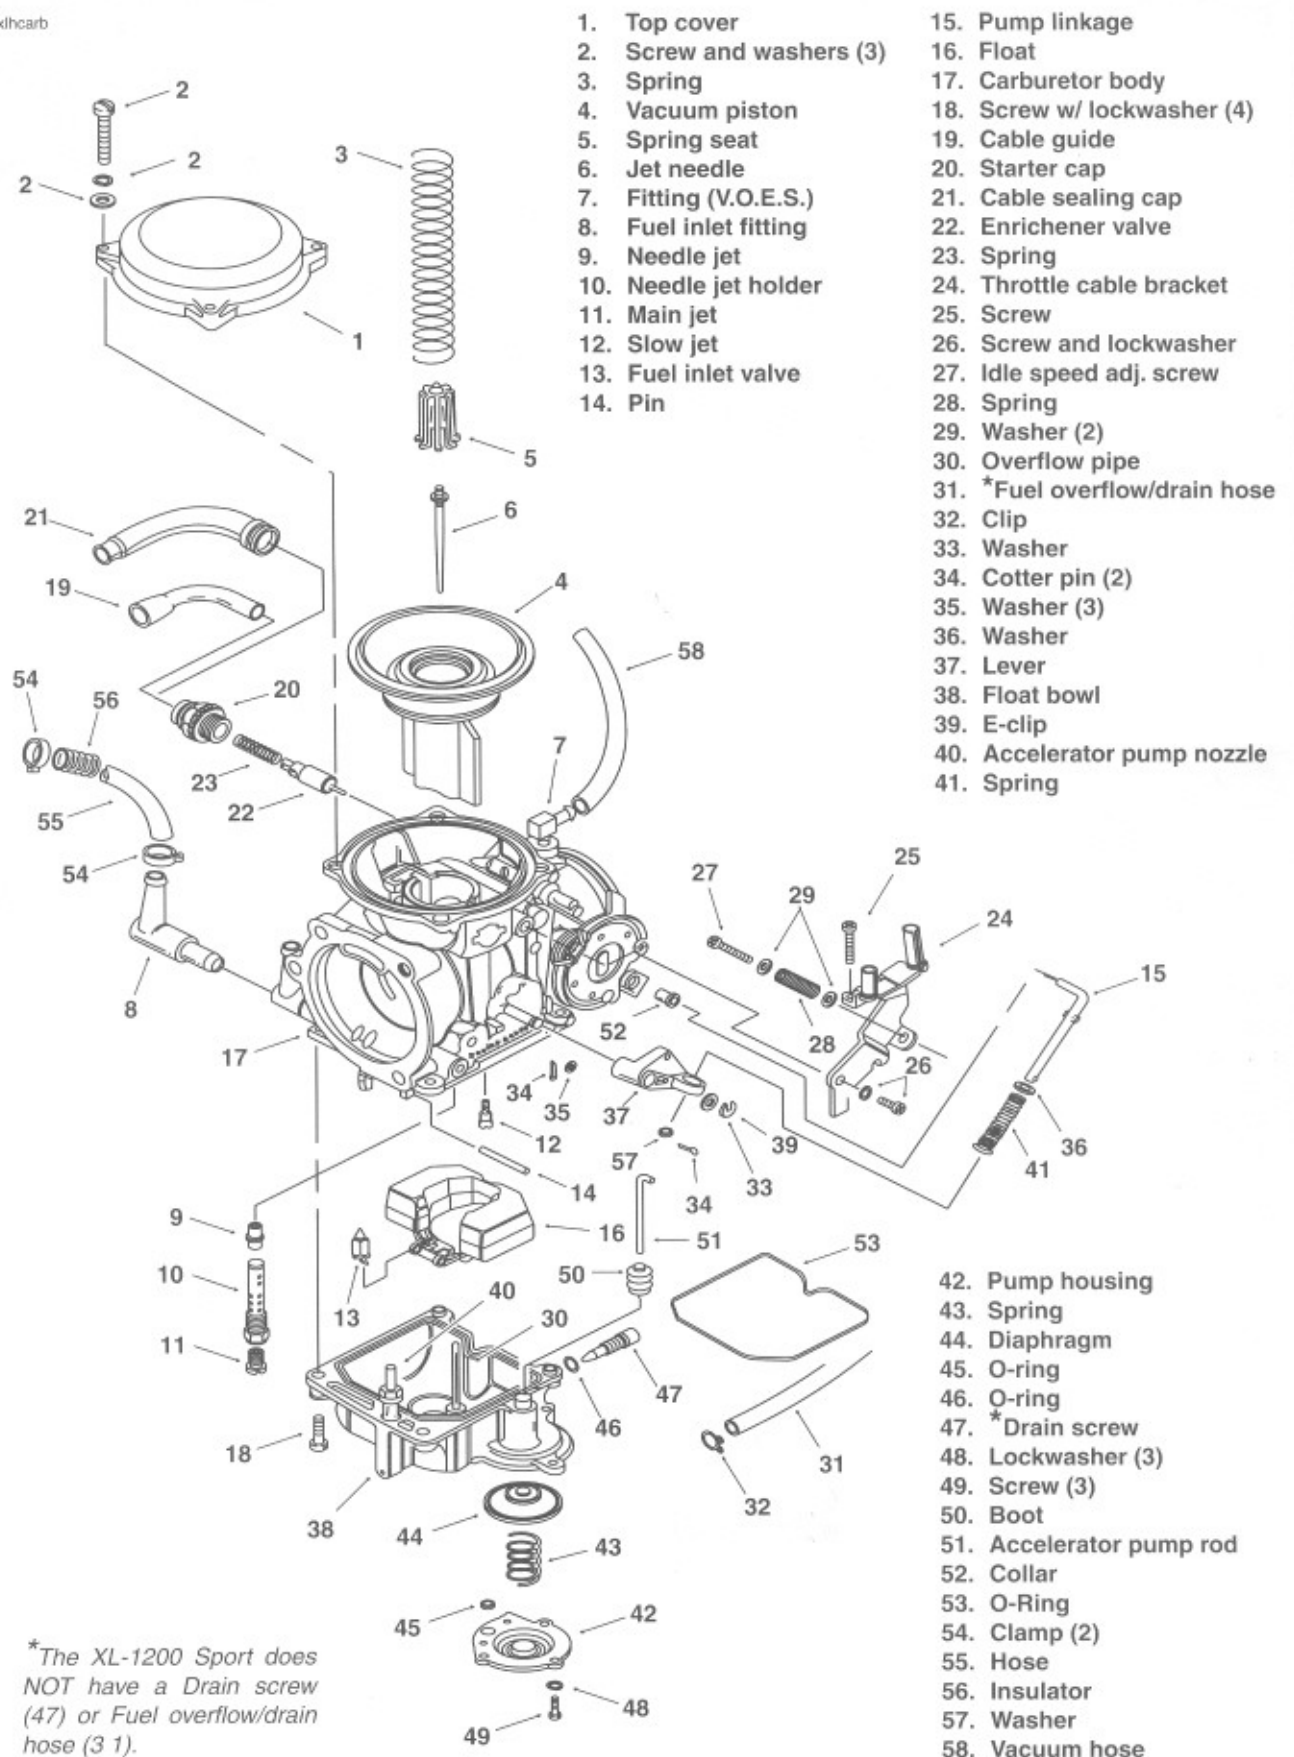

Figure 4-5. Constant-Velocity (CV) Carburetor
OPERATION CHECK – VACUUM PISTON (Figure 4-5)
4. See Figure 4-5. Disconnect fuel overflow/drain hose (31) from fuel overflow fitting (except XL-Sport). Disconnect vacuum hose (58) from V.O.E.S. fitting (7). Disconnect enricher valve assembly (19, 20, 21, 22, and 23).
DISASSEMBLY (Figure 4-5)
CLEANING, INSPECTION AND REPAIR (Figure 4-5)
ASSEMBLY (Figure 4-5)
10. See Figure 4-5. Connect fuel overflow/drain hose (31) to fuel overflow fitting. Connect vacuum hose (58) to V.O.E.S. fitting (7). Connect enrichener valve assembly (19, 20, 21, 22, 23) to carburetor body.
Carburetor Fuel Overflow / Drain Hose Routing (Figure 4-5)